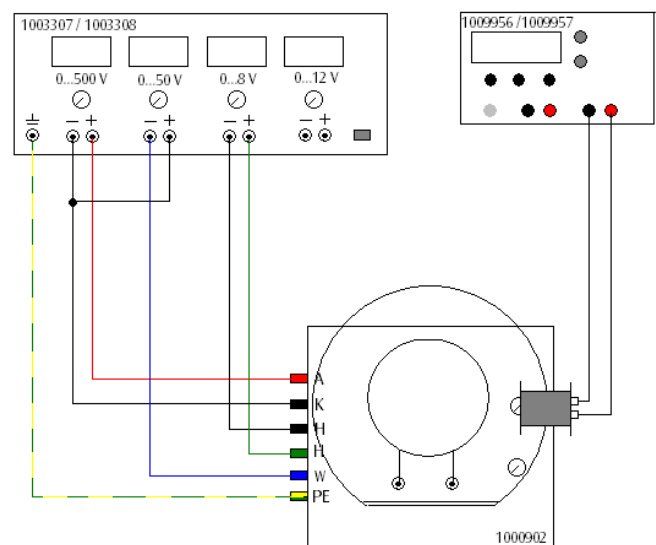

Fig. 6 Oscilloscope trace of periodic signals from a function generator.
- Attach a coil to the right side of the metal ring as in fig. 6.
- Set up the experiment as in fig. 6.